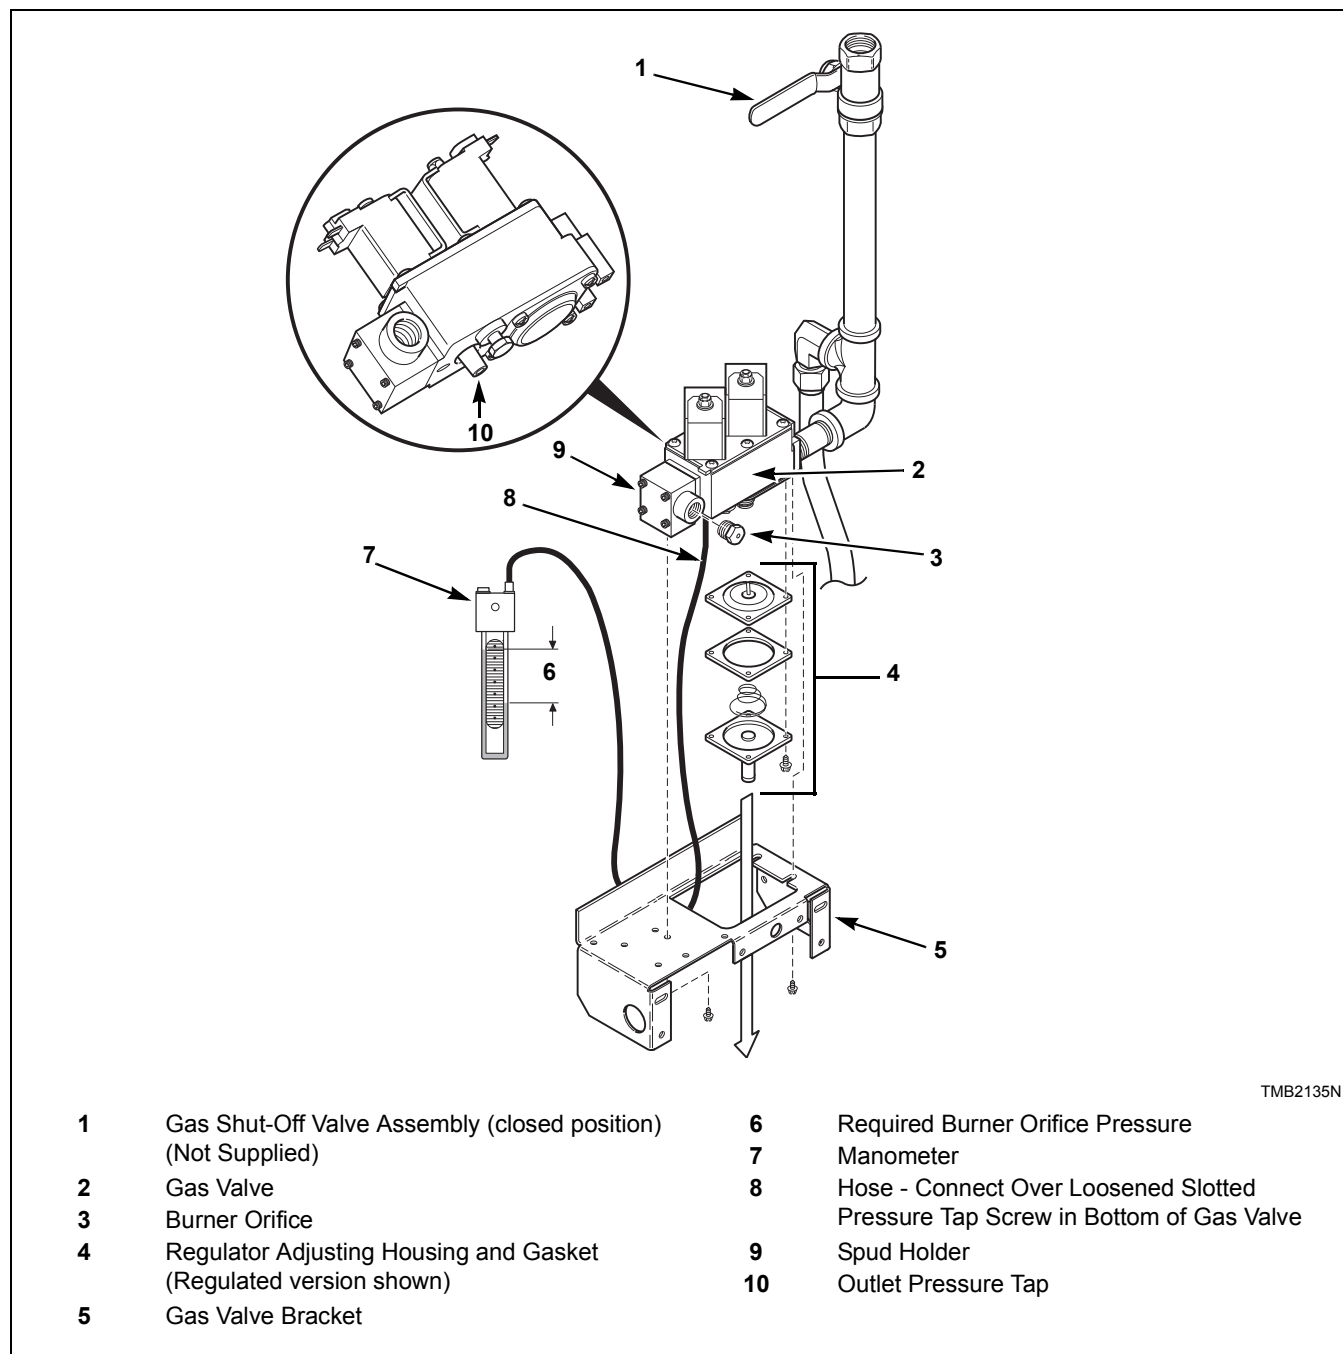

Figure 7
1. Disconnect electrical power from tumbler. Close gas shut-off valve to tumbler. Refer to *Figure 7*.
Remove burner orifice(s) from the spud holder. Refer to *Figure 7*.
1. Check gas burner orifice (manifold) pressure as follows. Refer to *Figure 7*.